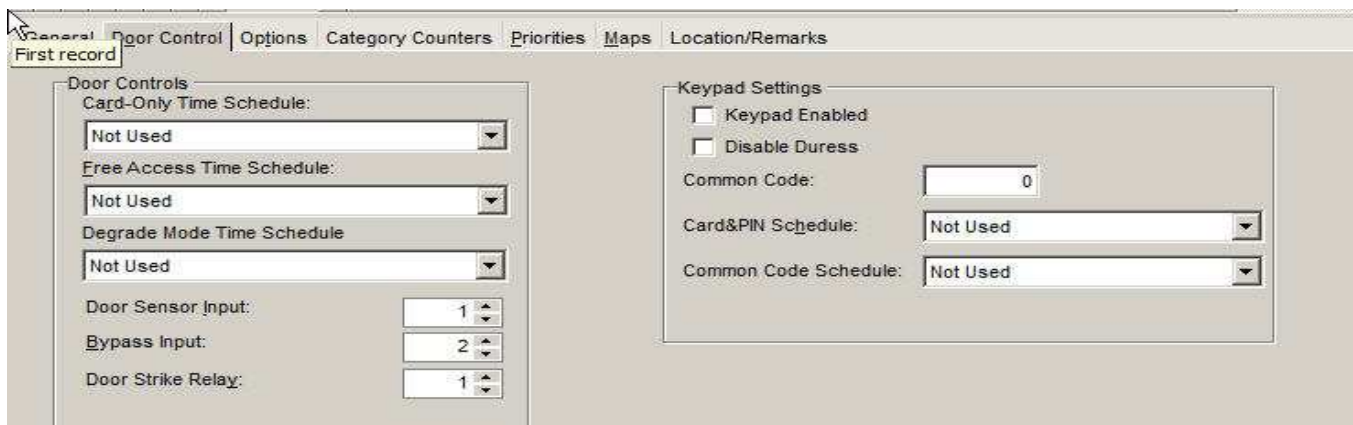

Figure 1.
1) Do not configure “Keypad Settings” under “Configuration/Readers/Door Control”. Refer to figure 1.